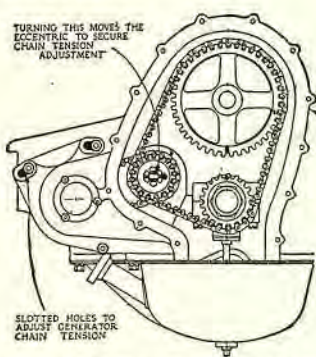

Fig. 36. An example of two silent chains with two adjustments for slack. (King.)
To set the cam shaft on an engine using two silent chains (Fig. 36) the procedure is similar, except that the chain driving the generator is not considered.
Note in Fig. 36 that the crank-shaft gear (lower) drives the large cam-shaft gear and also a double sprocket from which another chain drives the generator.
To adjust the generator chain, the generator is moved as shown in Fig. 36. If a chain is adjusted too tight, it will hum or sing at high speeds. If the chain should stretch to such an extent that no more adjustment is available, then either install a hunting or off-set link section, or a new chain, if badly worn. See Index under "Silent chains."
3. Eccentric adjustment (Fig. 36).